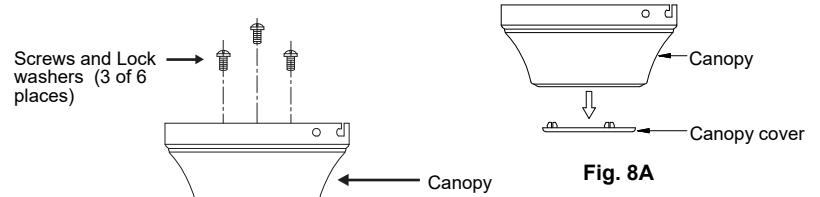

Fig. 8A
Step 2. Remove the decorative canopy cover from the canopy by turning canopy cover counterclockwise (**Fig. 8A**).